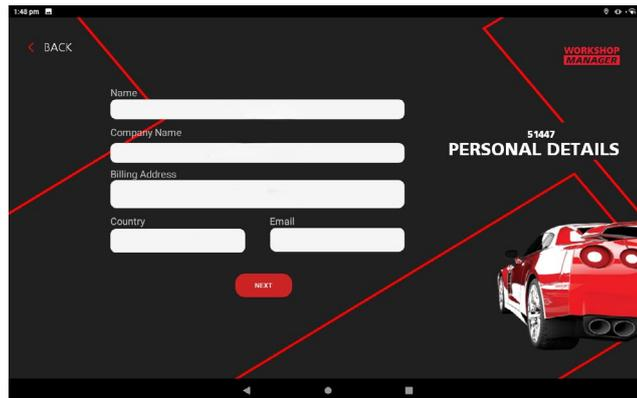

Figure 16
Step 2: Enter your Personal Details and Press Next. (Figure 16)